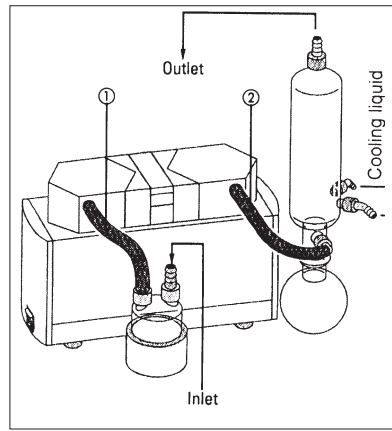

Figure 8: Tubing system SH... (two-headed pumps)
- 3 Tubing of two-headed pumps see figure 8. For tubing of single-headed pumps and pumps with aluminum heads (pump types including an „A“ in the type code), please contact KNF. Choose tube material which is resistant against the media to be used.
⚠ Observe the correct usage of the gas- and cooling liquid-connections on the condenser (see figure 8). Inlet and outlet connections for the vapour side are not interchangeable.